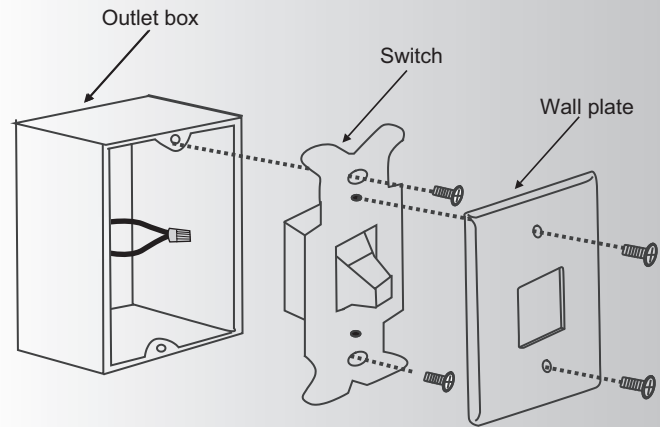

Fig. 28
Step 1. Remove the existing wall plate and the old switch from the wall outlet box. Wire nut the **BLACK** leads (hot) together and push back inside the outlet box. (Fig. 28)